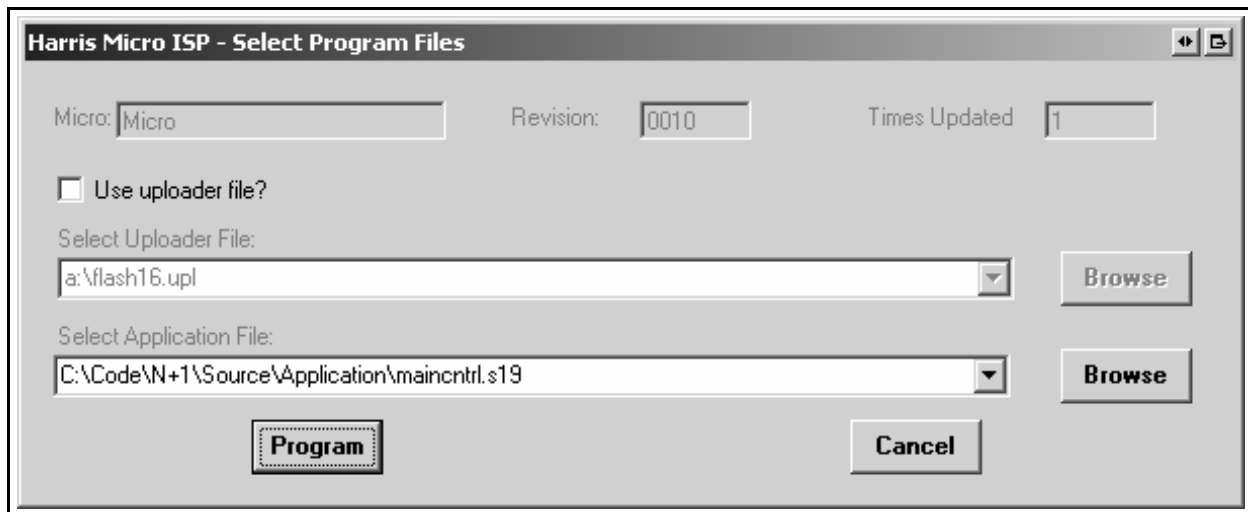

Figure 1-5 Browse the CD for the Desired S19 Application File
- STEP 8** Select the **Program File** button as shown. This will open the “Select Program Files” window shown in Figure 1-5.